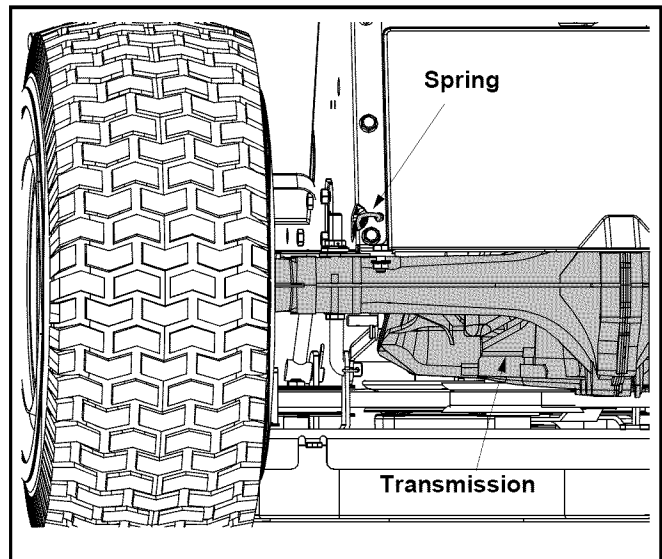

Figure 24
- Using a spring puller (*MTD Part No. 732-0571*) or other suitable tool, disconnect the spring which is attached to the left, rear portion of the tractor's frame. See Figure 24.